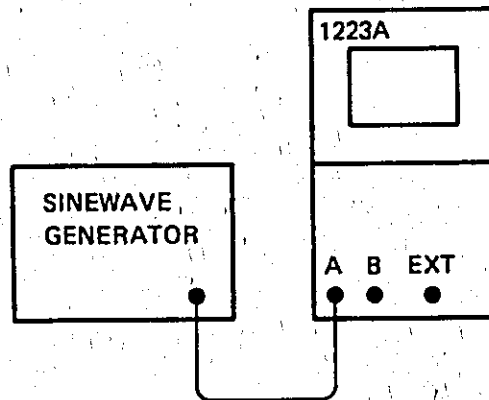

Figure 4-12. Auto Store Test Setup.
1. Connect the Sinewave Generator to the 1223A as shown in Figure 4-12, and set the 1223A controls as follows: